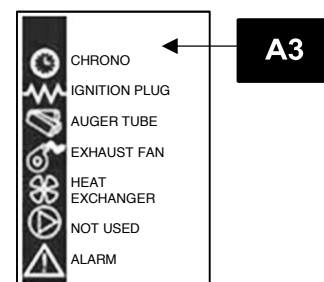

Figure 1
- (A3) STATUS **p. 3 F-2 and p. 17 figure 1**
**Figure 1 p. 17** describes the meaning of the status indicators appearing on the display left side.
**Programming:** When the LED is lighted, it means that the corresponding component is active **p. 17 figure 1**